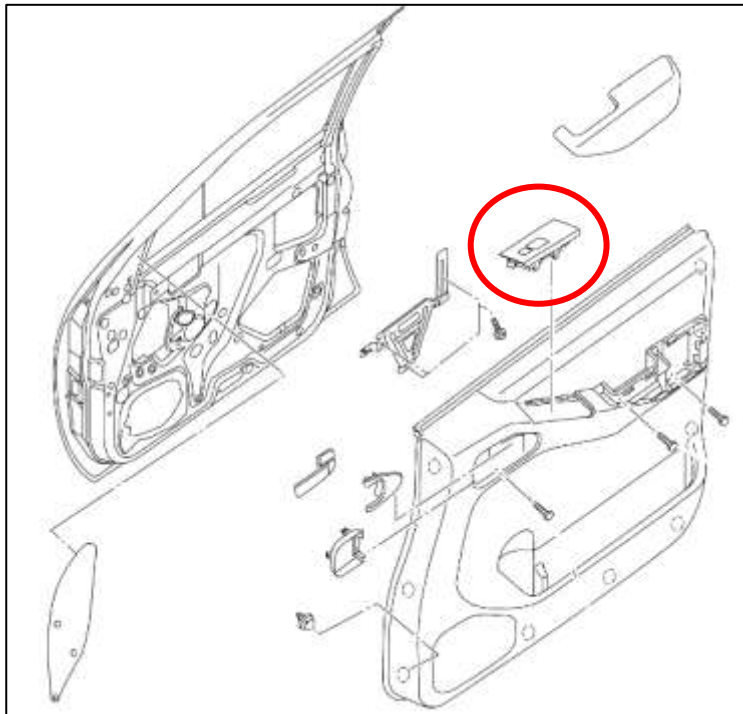

Figure 76
4. Pry up the Door Control Panel with a Trim Removal Tool. *Figure 76.*